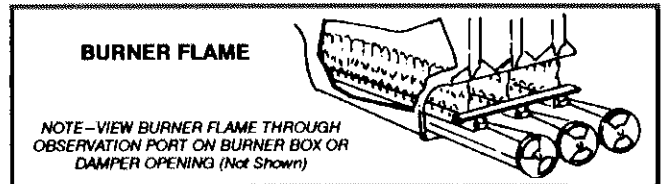

FIGURE 8
- 2- *Burner Flame* -- Start burner and allow to operate for a few minutes to establish normal burning conditions. Check burner flame by observation. Flame should be predominantly blue in color, strong in appearance and should rise directly from the burner ports in the heat exchanger. Check to see that flame is burning from all continuous ribbon ports and that flame does not strike the sides of the heat exchanger. See figure 8.